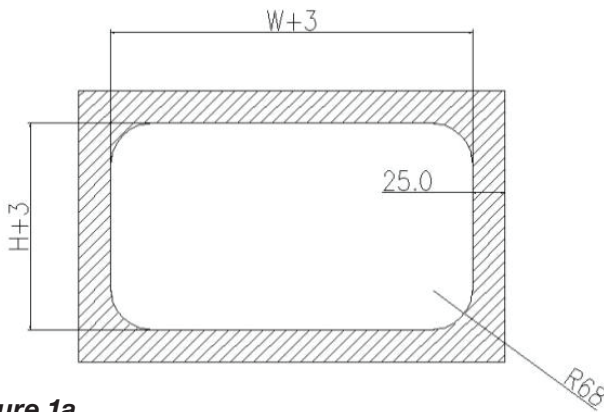

Figure 1a.
- Example SD004-500x800, the measures of the cutout is $H+3=503$, $W+3=803$, R68. (Figure 1a)